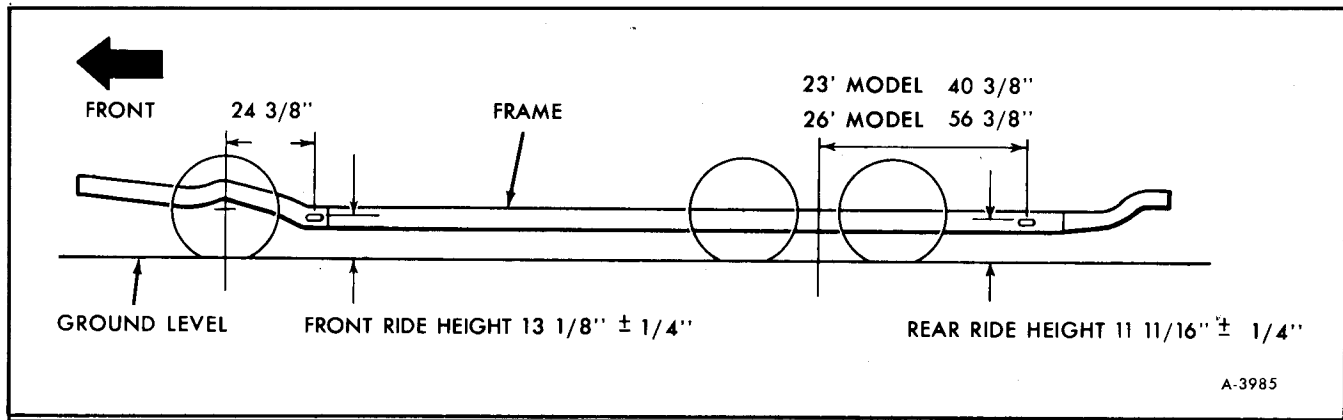

Figure 70—Checking Vehicle Ride Height
4. Raise rear wheels to bring top of control arms close together. Block control arm is shown in Figure 70. Place air bellows in position. Install star washers and lock nuts. Torque lock nuts to 50-60 ft.-lbs.
Measure the rear suspension ride height at the elongated slot on the frame rail. Refer to Figure 70.